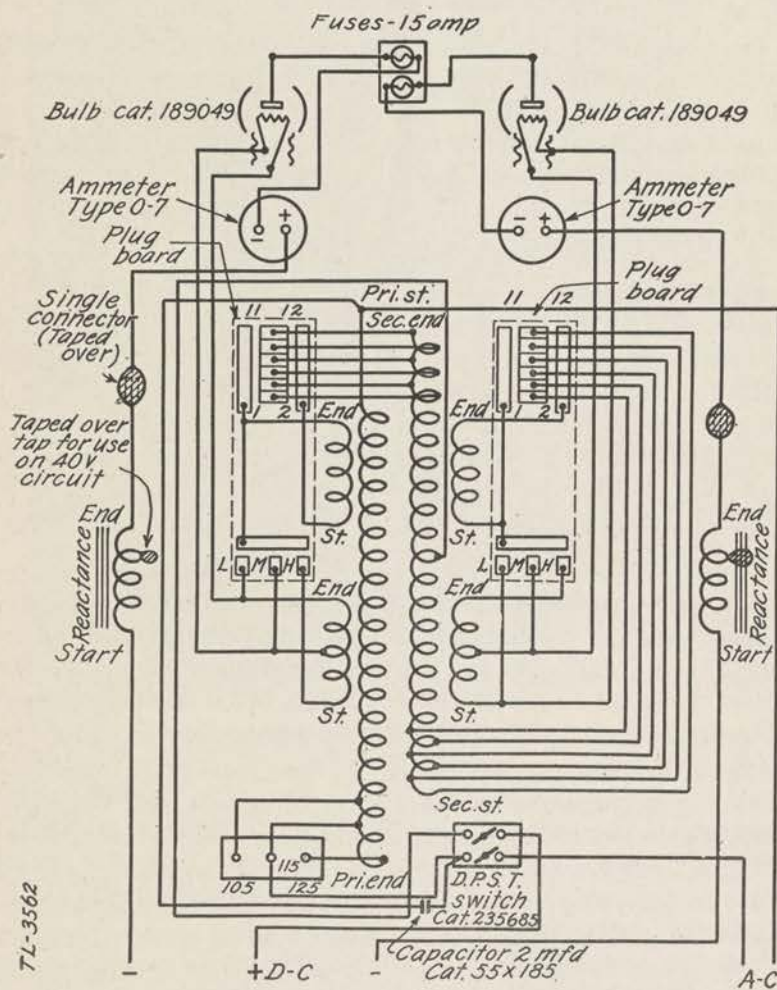

FIGURE 33.—Rectifier RA-36-A, B, or C, circuit diagram.
**35. Rectifier RA-36-A, B, or C.**—This rectifier is provided for charging batteries BB-46. It is designed to mount on rack FM-30 and to operate from 100-125-volt, 60-cycle, a-c power. The rectifier is of the full-wave type and is adjustable for charging a 24-volt storage battery at a rate of from 2 to 12 amperes. The rectifier is transported in case CS-73. For detailed information on the adjustment of the rectifier for varying the charging rate, consult the instructions outlined in paragraph 6c. Figure 33 shows the circuit diagram of the rectifier.